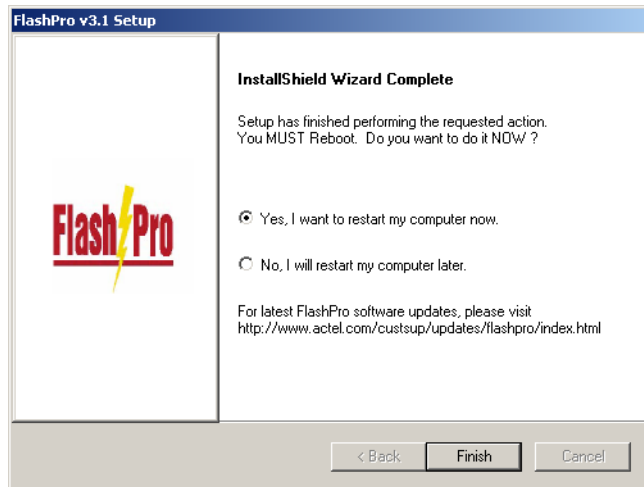

Figure 1-4. Installation Complete
6. **Click *Finish* to restart your computer as shown in Figure 1-4.** Actel recommends that you restart your computer before starting FlashPro.